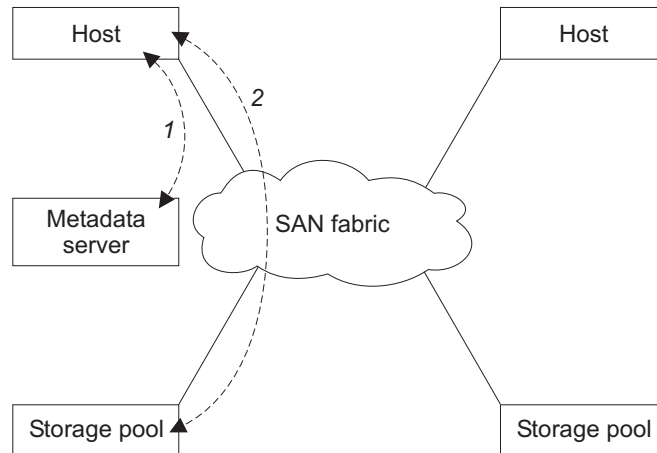

Figure 5. Asymmetrical virtualization
In asymmetric virtual storage networks, the data flow, (2) in the Figure 5 on page 9, is separated from the control flow, (1). A separate network or SAN link is used for control purposes. The metadata server contains all the mapping and locking tables while the storage devices contain only data. Because the flow of control is separated from the flow of data, I/O operations can use the full bandwidth of the SAN. A separate network or SAN link is used for control purposes. However, there are disadvantages to asymmetric virtualization.